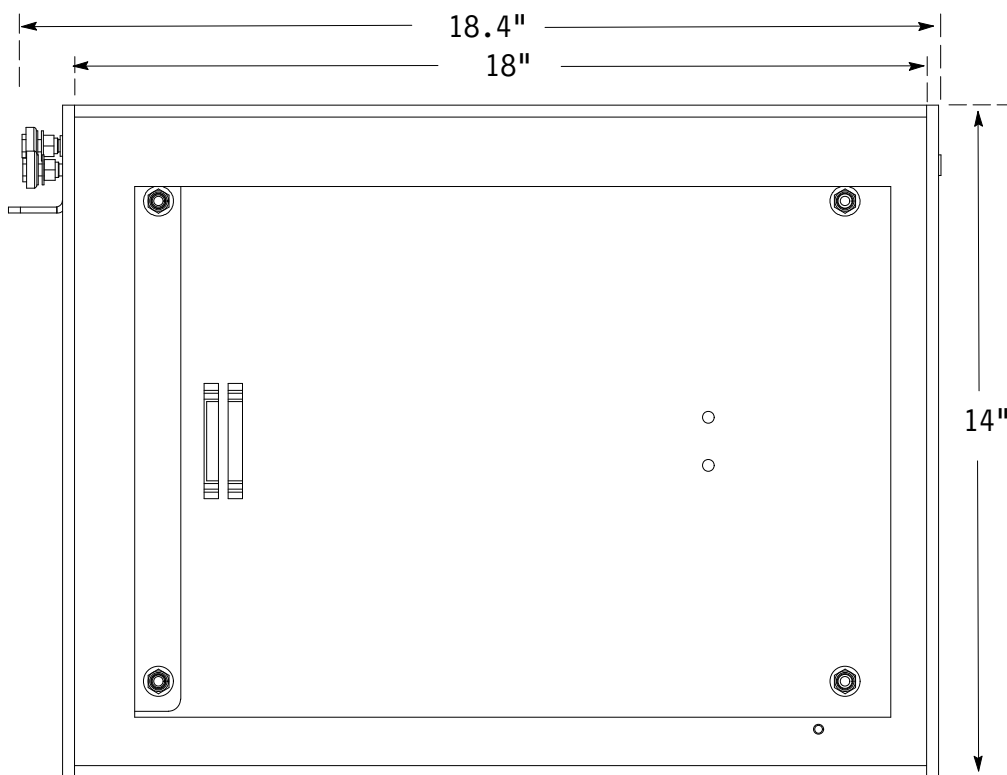

Figure 13. Right Side of Boxer Skirt, Panel Removed
4. **Install skirt bond strap.** As shown in Figure 13, attach one end of the other bond strap to the downward facing post provided for it on the top flange of the skirt near the left wall. Attach the other end of the strap to the bolt that enters the top left front corner of the skirt from the cabinet above. This bolt also secures the bond strap located inside the cabinet above. Secure the bond strap with the provided nut.